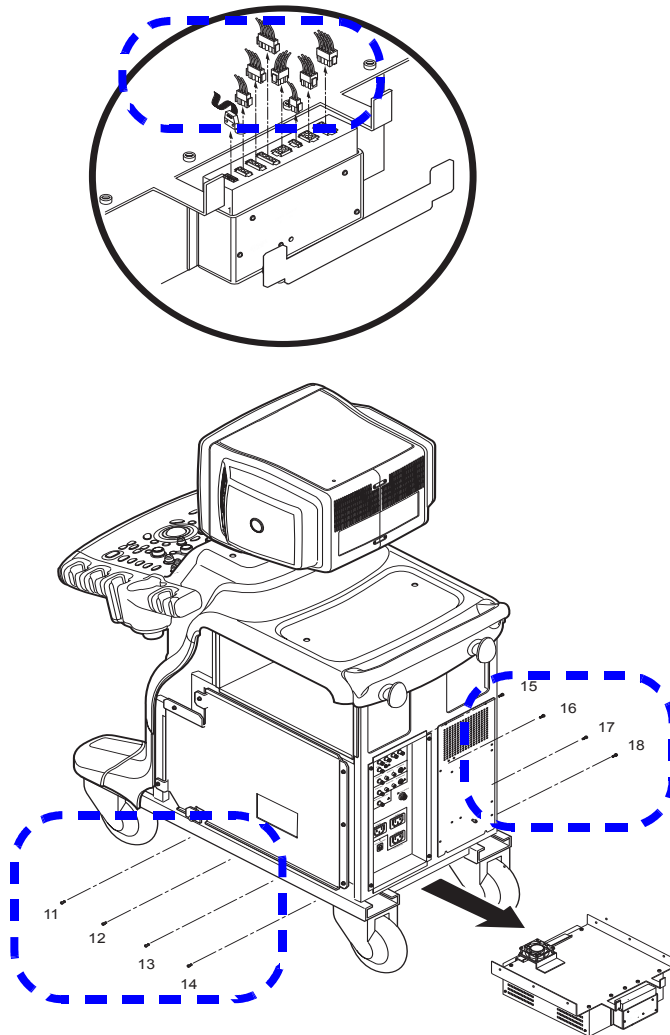

Figure 8-45 Removing the AC Power Assy
3.) Unscrew eight (8) screws (11-18) to remove AC Power assy. Refer to Figure 8-45 on page 8-100 ..